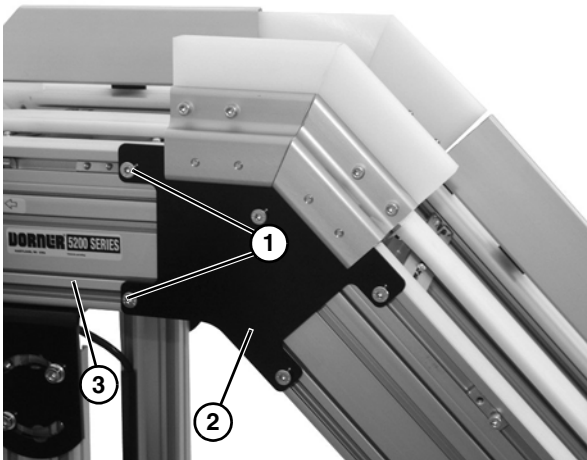

Figure 7
1. Attach upper knuckle to frame by loosening two socket head cap screws (**Figure 7, item 1**) on each side of upper knuckle assembly (**Figure 7, item 2**), and sliding T-Nuts into straight frame section (**Figure 7, item 3**).